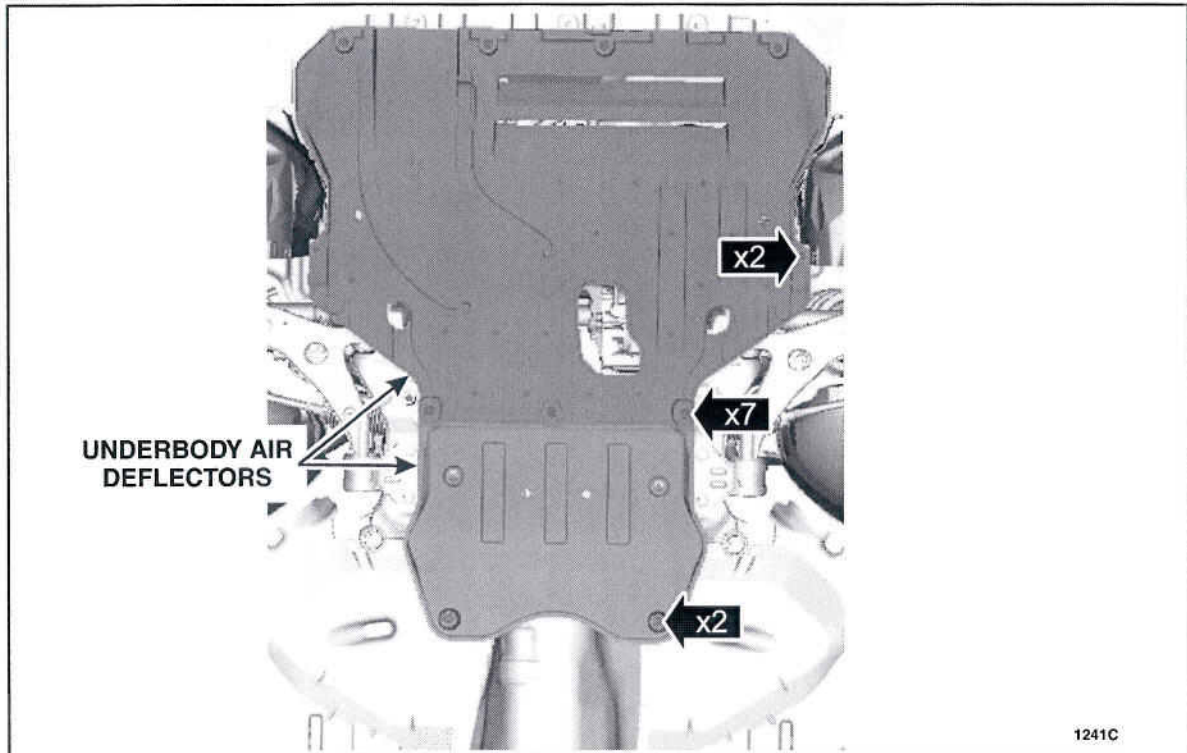

FIGURE 10
21. Remove the retainers and the underbody air deflectors. See Figures 10 and 11.
25. Install the underbody air deflectors and retainers. See Figures 10 and 11.